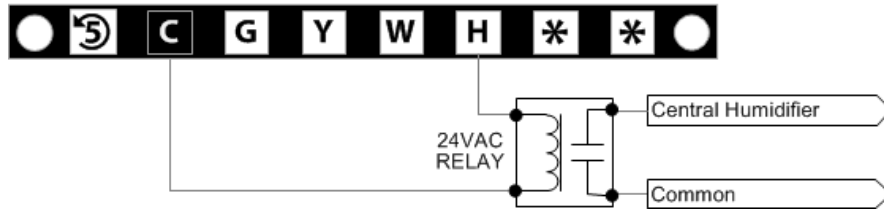

Figure 18 – Connecting to a dry contact controlled humidifier with the use of a relay.
- **Dry contact controlled equipment.** In cases where a device must be controlled through dry contacts – as is often the case with humidifiers – a relay (not supplied) must be added, to be activated by the 24 VAC signal sent by the corresponding terminal and whose “normally open” and “common” contacts will connect to the dry contact terminal of the device in question (Figure 18).